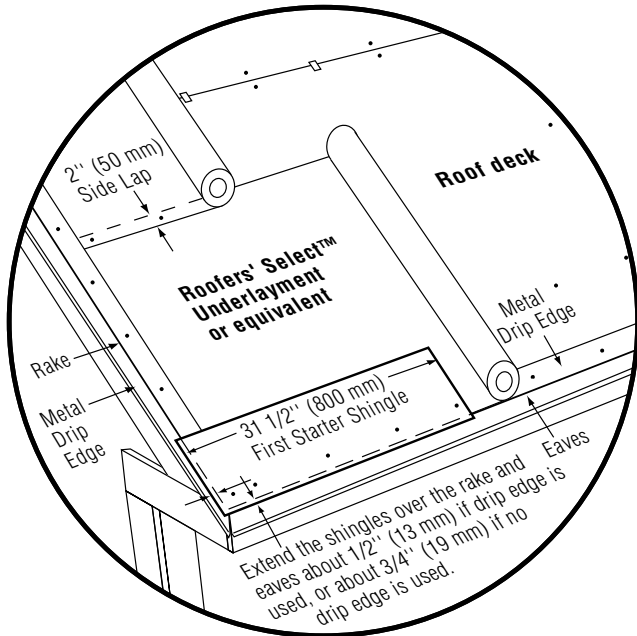

Figure 16-8: Standard slope underlayment and starter drip edge details.
- ◆ For all three shingle styles, cut $4\frac{1}{2}$ " off the length of the left side of the first starter strip and apply at the lower left corner of the roof. This $31\frac{1}{2}$ " starter strip should overhang the rakes and eaves $\frac{1}{2}$ " when drip edge is used or $\frac{3}{4}$ " when no drip edge is used. Continue with full 36" lengths of starter strips all along the eaves (Figure 16-8).